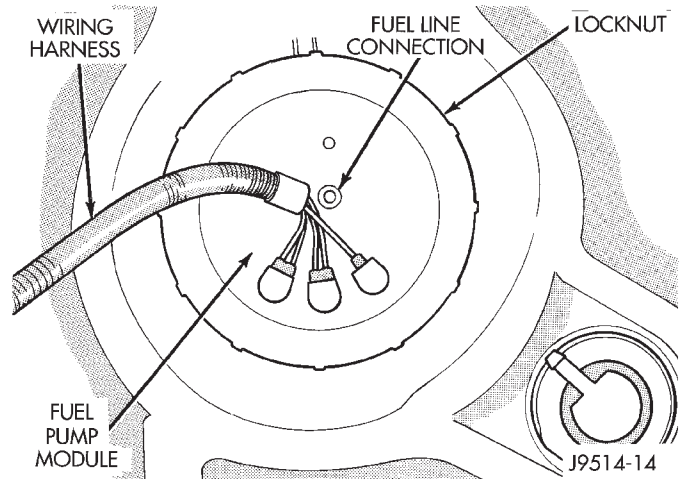
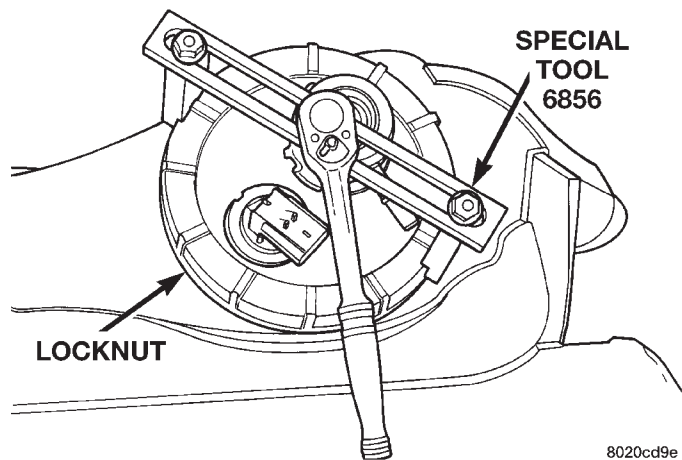

Fig. 27 Top View of Fuel Pump Module
Fig. 28 Locknut Removal/Installation—Typical
- (1) Drain the fuel tank. Refer to Draining Fuel Tank in the Fuel Tank section of this group.
- (2) Remove fuel tank. Refer to the Fuel Tank section of this group.
- (3) The fuel pump module locknut is threaded onto the fuel tank (Fig. 27). Install Special Tool 6856 to the fuel pump module locknut and remove locknut (Fig. 28). The fuel pump module will spring up when the locknut is removed.
- (4) Remove module from fuel tank.